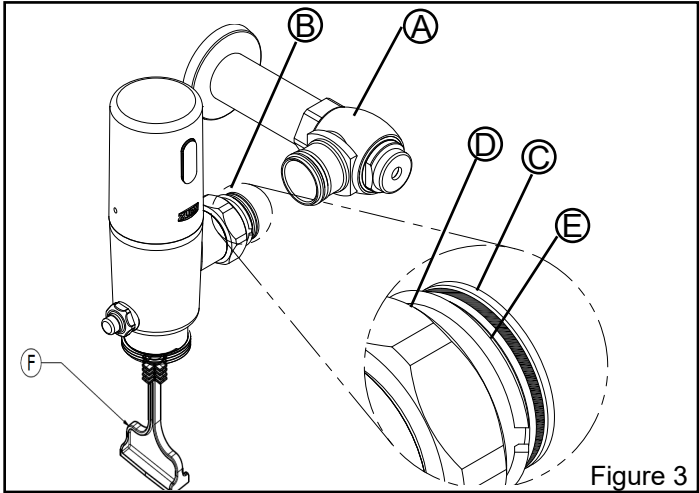

Figure 3
Prior to attaching flush valve to control stop(A), inspect the tailpiece and verify the locking nut (D) and locking snap ring (E) are present and O-ring (C) properly sits in the O-ring groove. Next, grip the shipping plug handle (F) and slowly pull downward to remove and discard from the valve body. This positions the piston for initial start. See Figure 3.